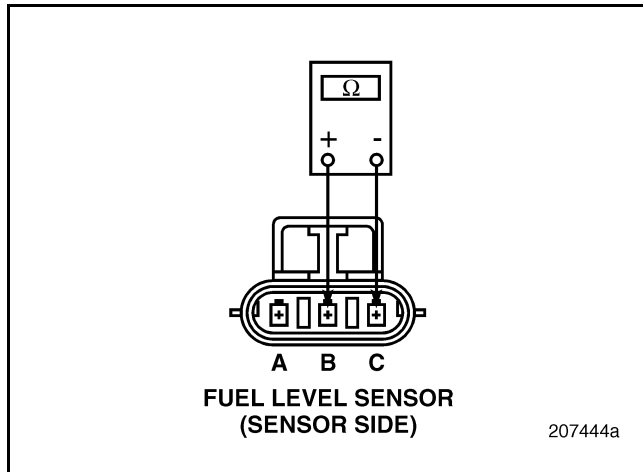

Figure 613
2. Disconnect the Fuel Level (FL) Sensor harness connector.
3. Check for continuity between pins B and C on the Fuel Level (FL) Sensor pigtail connector (see Figure 613).